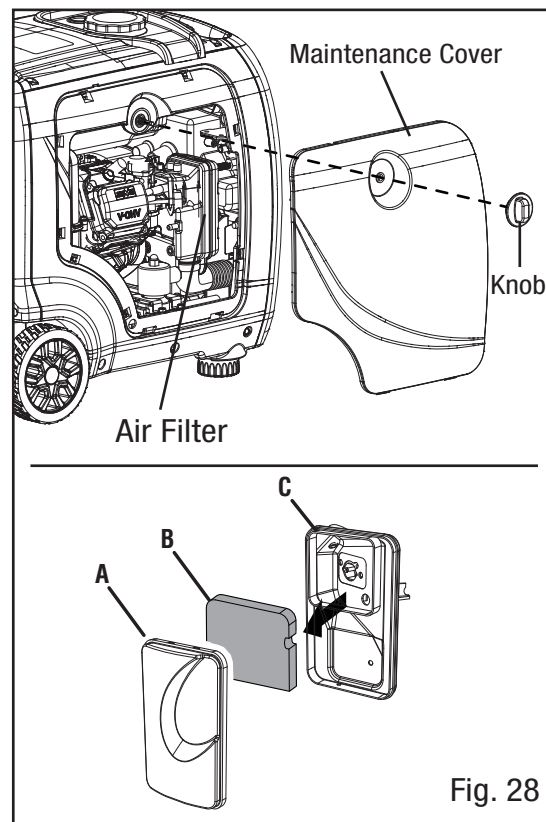

Fig. 28
2. Take the cover off of the air cleaner (Fig. 28). Remove the sponge-like air filter element from the casing. Wipe excessive oil and any dirt from inside of the air filter casing.
1. Unscrew the maintenance cover knob, and remove the cover from the side panel (Fig. 28).